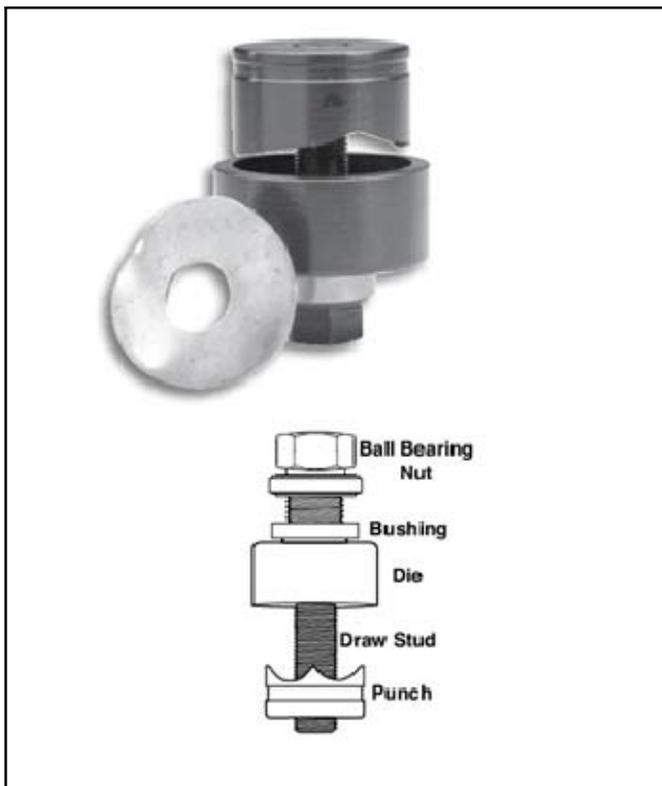

Figure 4 – Greenlee® Knockout Punch fig
**NOTE:** Use either Greenlee® knockout part number 35182 or part number 730BB 2-1/2 to make these holes. See Figure 4 for an example of the required punch.